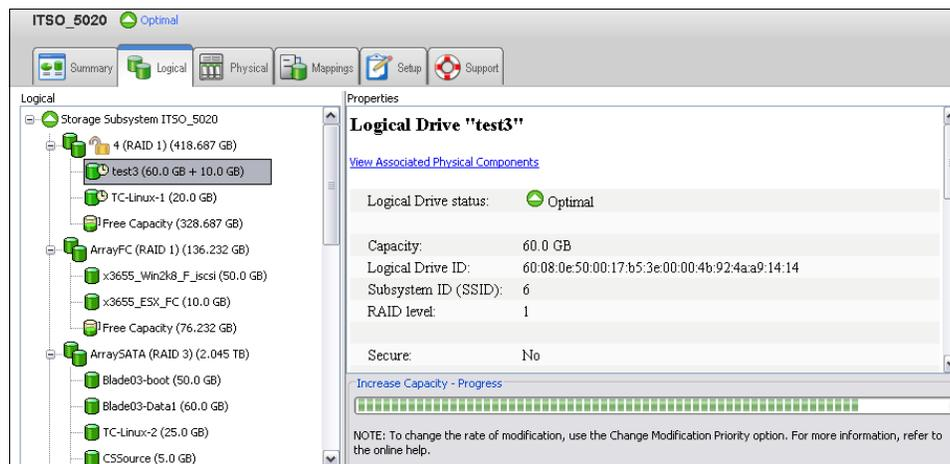

Figure 12-15 Wait for increase capacity process to complete
**Tip:** We suggest to wait for DS5000 increase capacity process on the array to complete, as shown in Figure 12-15, before continuing with the `chvg` command in AIX.